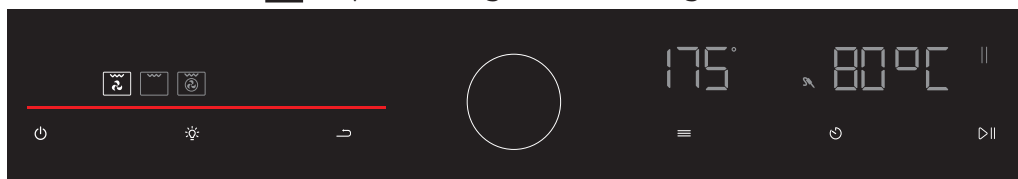

Figure 122
1. Grill and fan () operate together. (see figure 122)